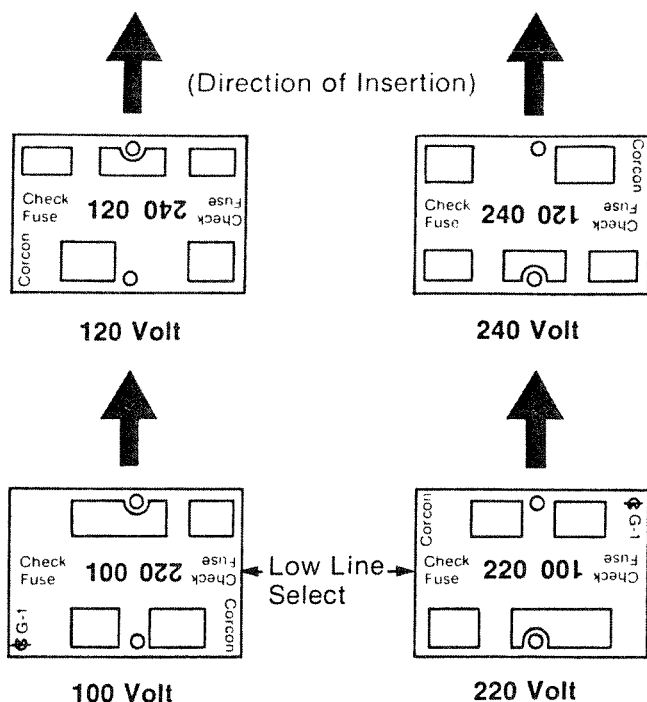

Figure A-1
A.1 OPERATING VOLTAGE SELECTION (Figure A-1)